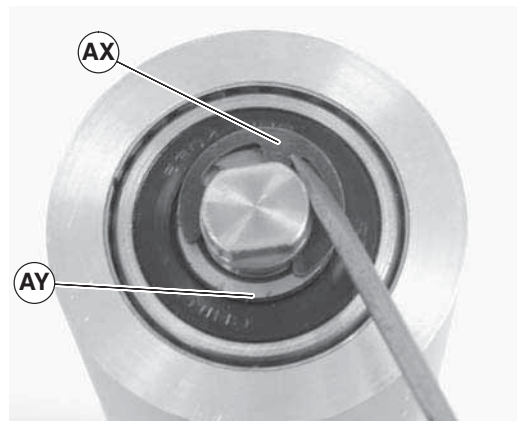

Figure 37
5. Remove the pulley shaft assembly: remove the clip ring (Figure 37, item AX) and washer (AY) from one side of the pulley assembly.